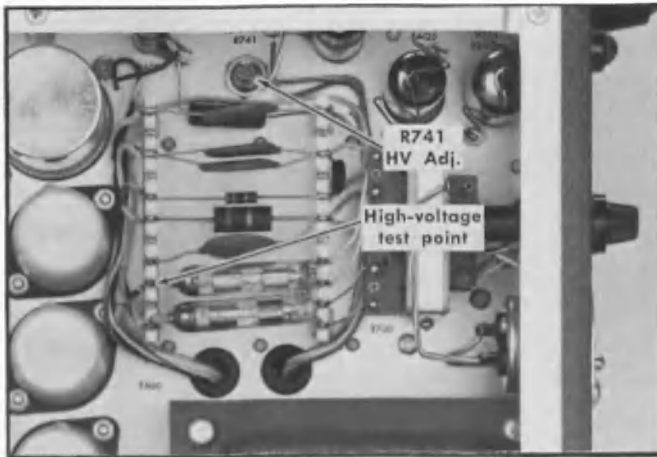

Fig. 5-3. Location of high-voltage test point and adjustment (right side).
a. Connect the DC voltmeter from the high-voltage test point (see Fig. 5-3) to chassis ground.
c. ADJUST—HV Adj, R741 (see Fig. 5-3) for -1675 volts.